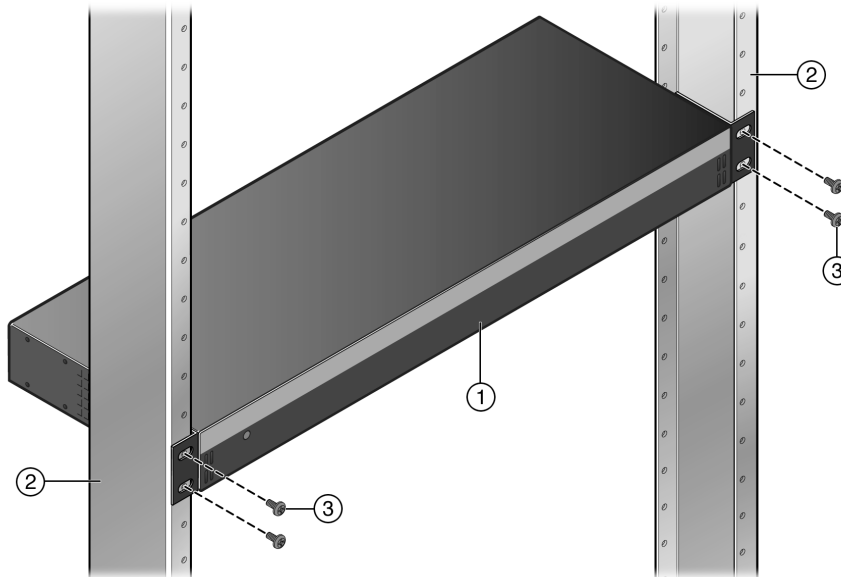

Figure 333: Fastening the RPS-500p to the Rack
2. With the rack-mounting brackets attached, position the RPS-500p between the vertical rack rails of the 19-inch rack as shown in Figure 333.